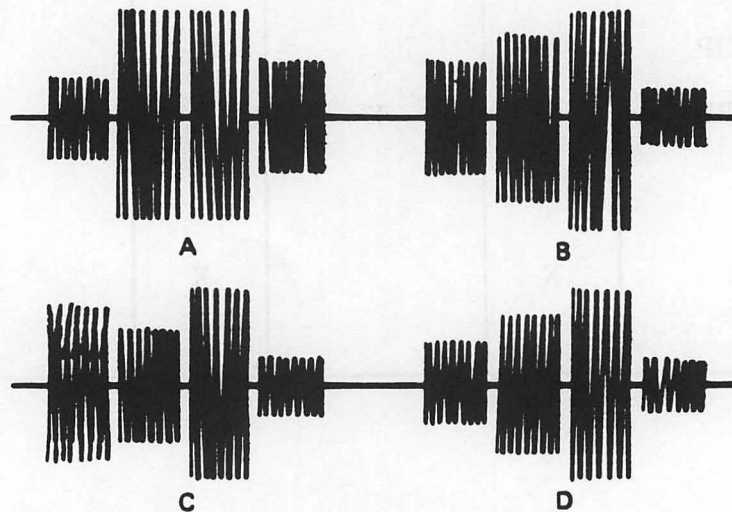

Figure 6-2.
8. Compare the MIDDLE group of bars on the scope to those in Figure 6-2. All of the patterns shown are acceptable EXCEPT C.